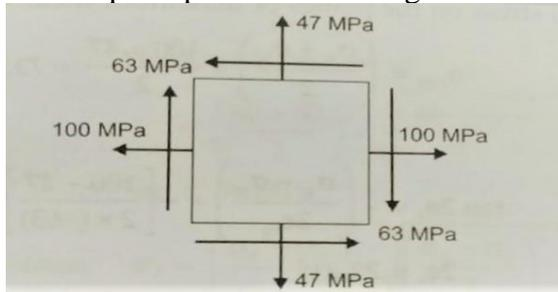

Fig Q 8(b)
- b. A rectangular block of material is subjected to a tensile stress of 100 N/mm² on one plane and tensile stress of 47 N/mm² on the plane at right angle to the first as shown in Fig Q 8(b), each of the above stresses is accompanied by shear stress of 63 N/mm². Determine the magnitude and direction of each principal stress and magnitude of shear stress. **10** (3 :4 : 2.2.4)